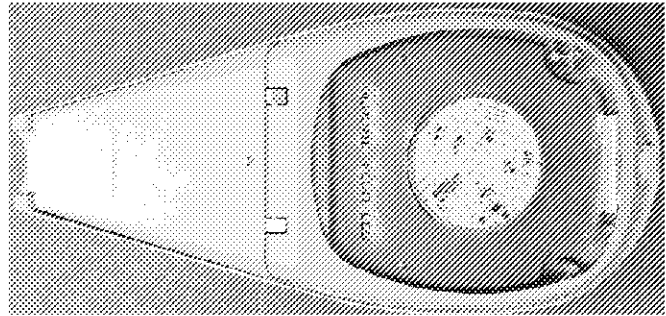

Figure 6
11. Figure 6 is a view of the retrofit completed prior to mounting on the pole arm